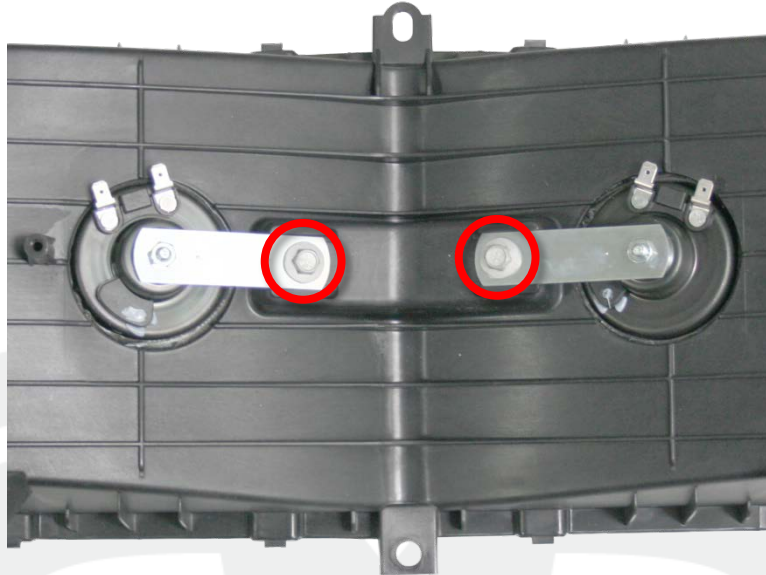

Figure 7
7. From the rear of the active louver, secure the brackets to the clips using the provided bolts (torque 5 Nm) (Figure 7).